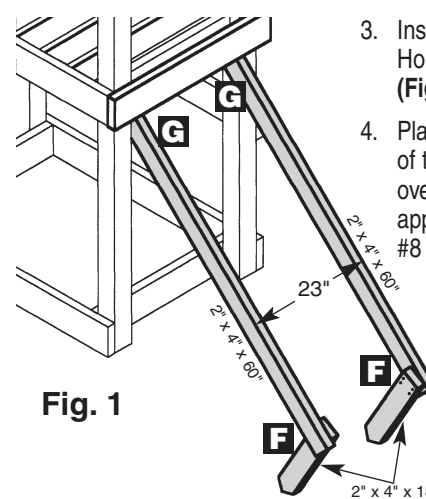

Fig. 1
1. Install two 2" x 4" x 60" wall supports to 4" x 4" tower posts. Position the wall supports under the deck side board so the ends are flush with the rear edge of the 4" x 4"s (opposite ends resting on the ground as shown). Secure with two #8 x 2 1/2" deck screws and one 3/8" x 3" lag screw with washer each side. (Fig.1)
2. Install two 2" x 4" x 18" ground stakes at the bottom of wall supports as shown (outside dimension of wall supports will be 23"). Drive them into the ground as shown. Secure with four #8 x 2 1/2" deck screws each. (Fig.1)